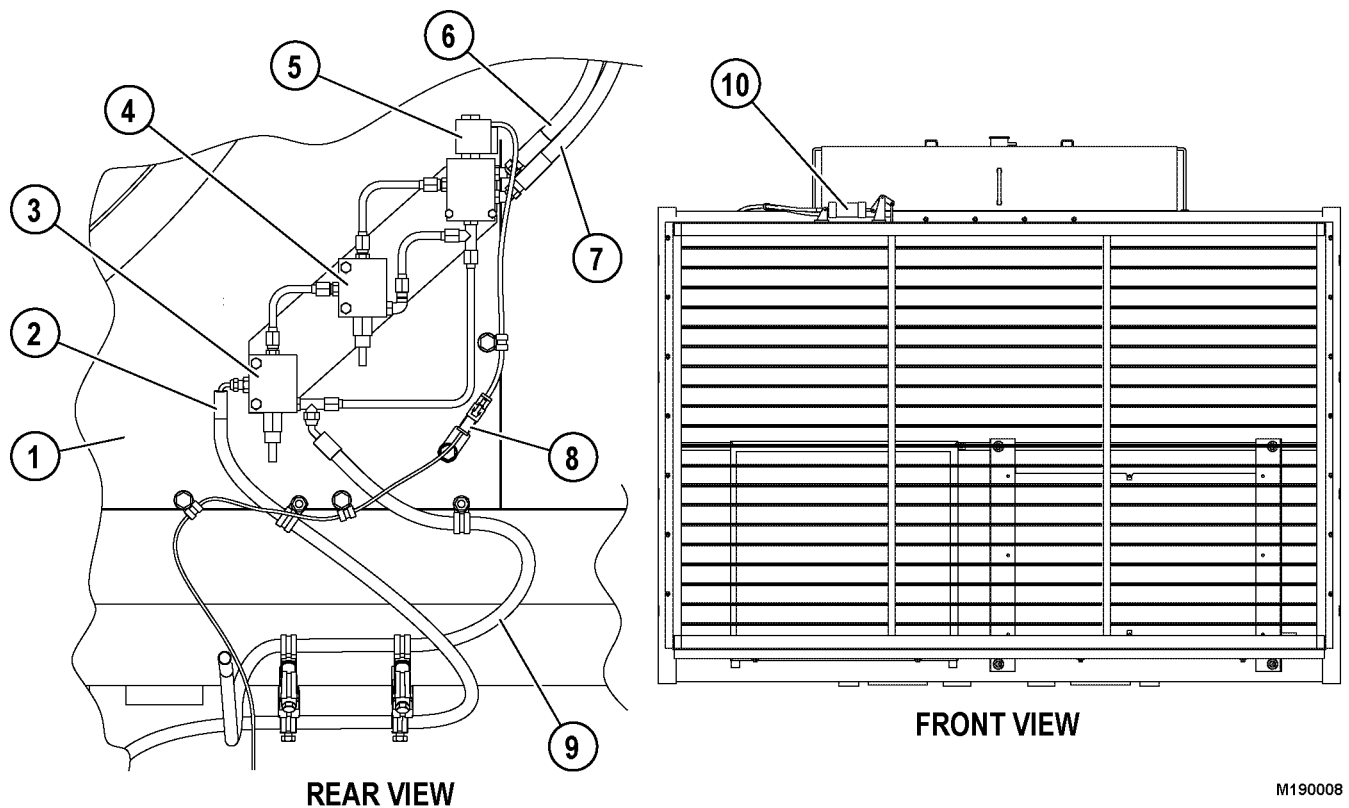

FIGURE 19-1. SHUTTER ACTUATOR CYLINDER OIL SUPPLY VALVES
Hydraulic oil pressure to operate the shutter assembly actuator cylinder is supplied from the truck steering circuit. Hose (2, Figure 19-1), which is attached to a "T" fitting at the automatic lubrication system pump supply port, routes oil to pressure reducing valve (3). This valve reduces the steering circuit pressure from 24 132 kPa (3,500 psi) to 10 342 kPa (1,500 psi). The pressure is further reduced to 517 kPa (75 psi) by pressure reducing valve (4). This valve supplies the oil to shutter solenoid valve (5) to pressurize the head end of the shutter actuator cylinder (10), which closes the shutters during engine warm-up. When the shutters are signalled to open, the solenoid valve will be de-energized and the spool will shift to direct oil to the rod end of the actuator cylinder. Oil returns to the hydraulic tank through hose (9).
Solenoid valve (5, Figure 19-1) and pressure reducing valves (3) and (4) in the hydraulic circuit are factory set and are not adjustable. If a valve is inoperative, replace the complete valve and body assembly.